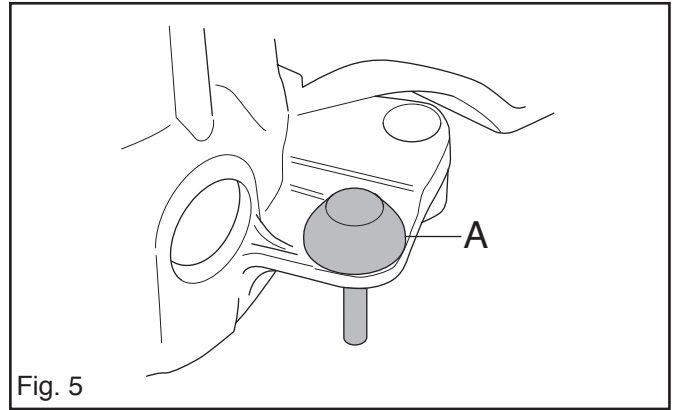

Fig. 5
B. Rubber stop (A). See fig. 5.
- D. Fit the rubber stop (A). See fig. 5.